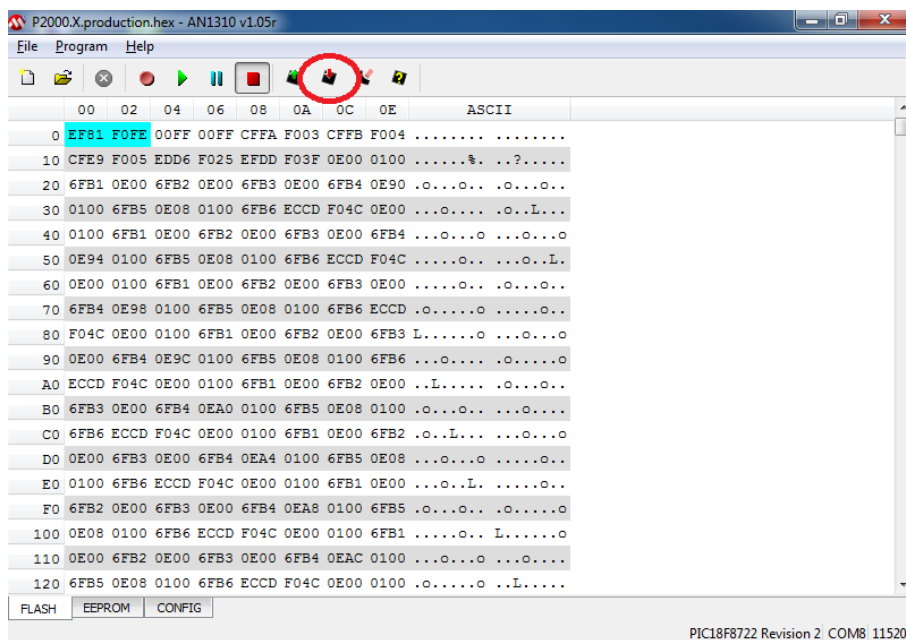

Figure 3.19
9. The bootloader screen will show new hexadecimal values. Click the **Write Device** button (Figure 3.19).